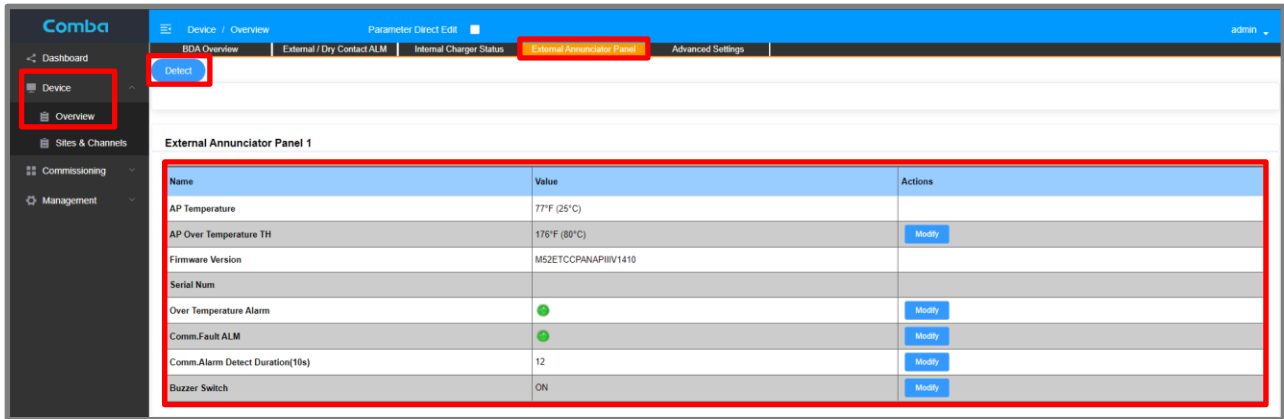
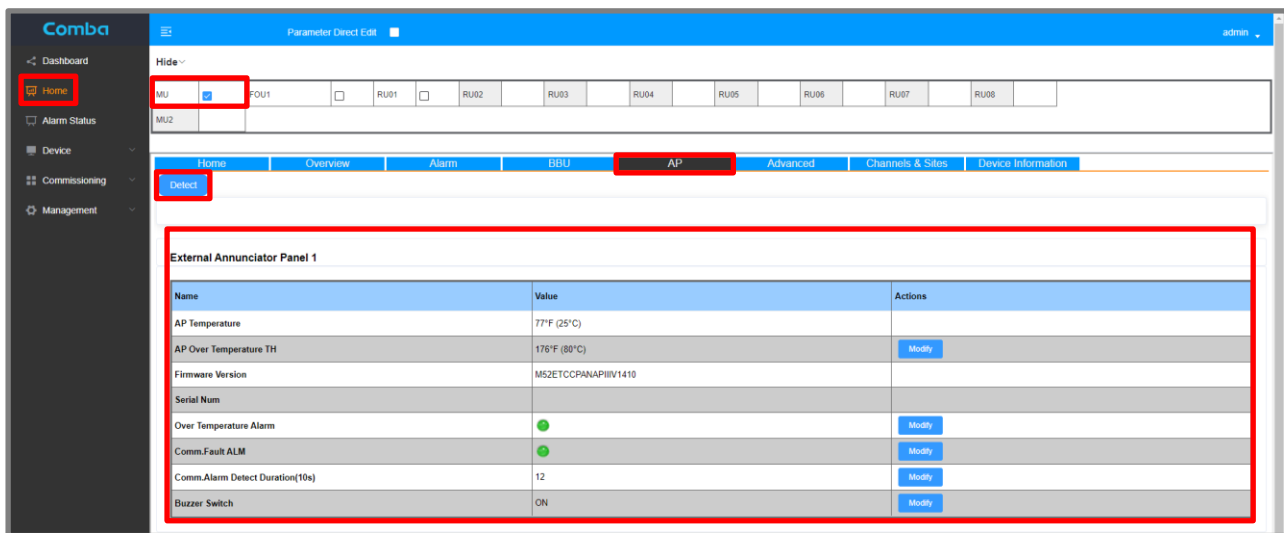

Figure 44: Commissioning V3 AP in BDA mode
Figure 45: Commissioning V3 AP in DAS Mode
- For BDA mode, see Figure 44 below, navigate to Device -> Overview -> External Annunciator Panel. For MU mode, see Figure 45 below, navigate to Home -> MU -> AP. For RU, Navigate through the MU to Home -> RU -> AP.